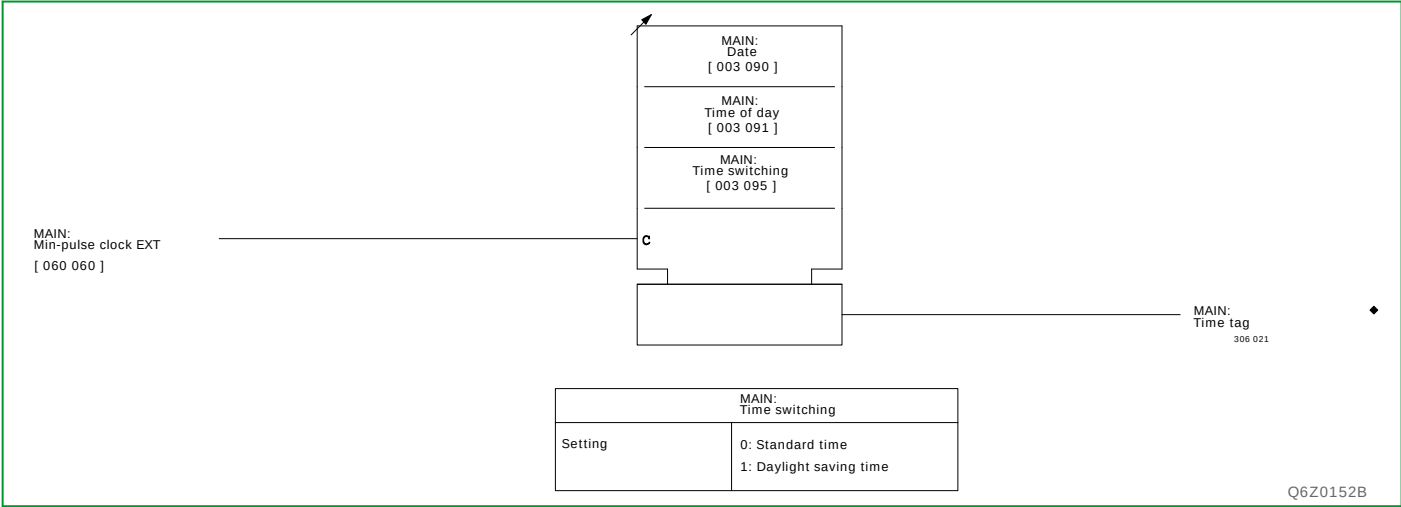

Fig. 3-91: Date/time setting and clock synchronization with minute pulses presented at a binary signal input.
- Minute pulse presented at a binary signal input (MAIN), see Fig. 3-91, (p. 3-132) and previous paragraph